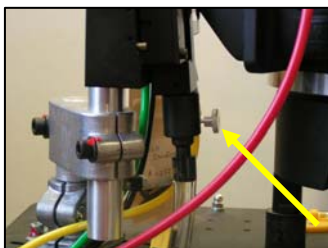

FIG 5
7. Connect the Screw Tube with the metal fitting for the Weber Vibratory Feeder as indicated using the thumb screw. (FIG 5)